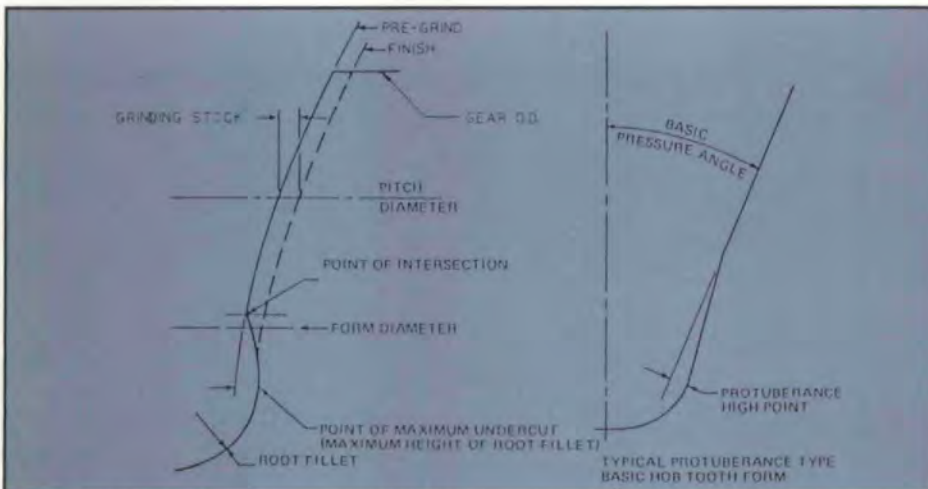

Fig. 9—Undercut produces by a pre-grind hob and a protuberance type hob.
- c. Select protuberance on the basis of DPN. Excessive protuberance on gear cutting tools can cause unclean profile above TIF (SAP) at tooth grinding, while insufficient protuberance can cause grinding step problems. Fig. 9 shows undercut produced by a pre-grind hob and a protuberance type hob.